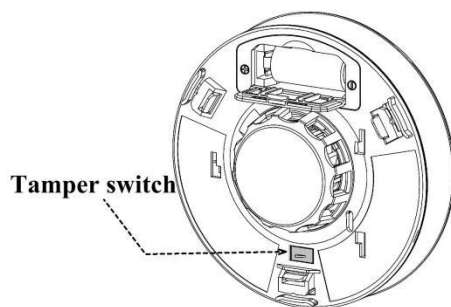

Figure11: Tamper switch location
TAMPER ALARM: When the bracket is uninstalled, the tamper switch is opened, the tamper alarm will sound, the tamper switch location as shown in **Figure11**, The tamper alarm pattern is two (2) long alarm sirens with two (2) corresponding flashes of the yellow LED.